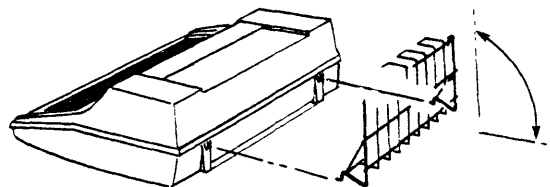

FIGURE 3
4. Insert basket hooks into slotted holes in rear of printer and rotate down into rest position (see Figure 3).